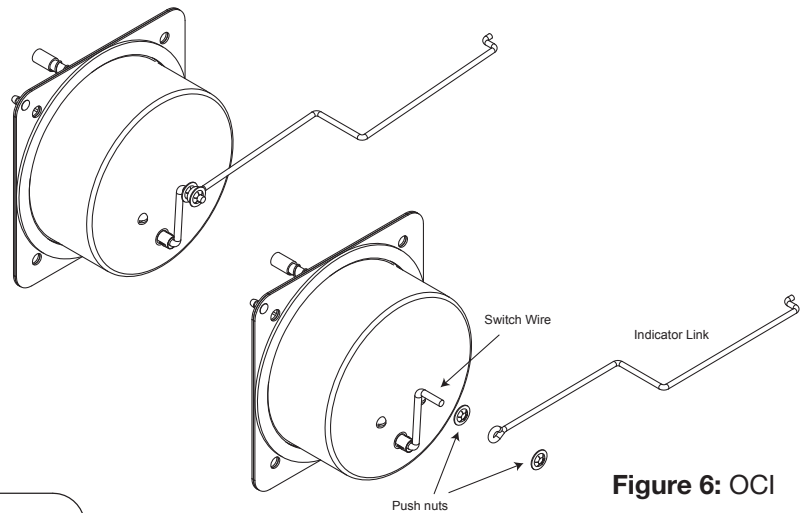

Figure 6: OCI
7. Place one push nut on the switch wire. Place indicator link on switch wire and secure with a second push nut (Figure 6).
6. Place one push nut on the switch wire. Place indicator link on switch wire and secure with a second push nut (**Figure 6**).